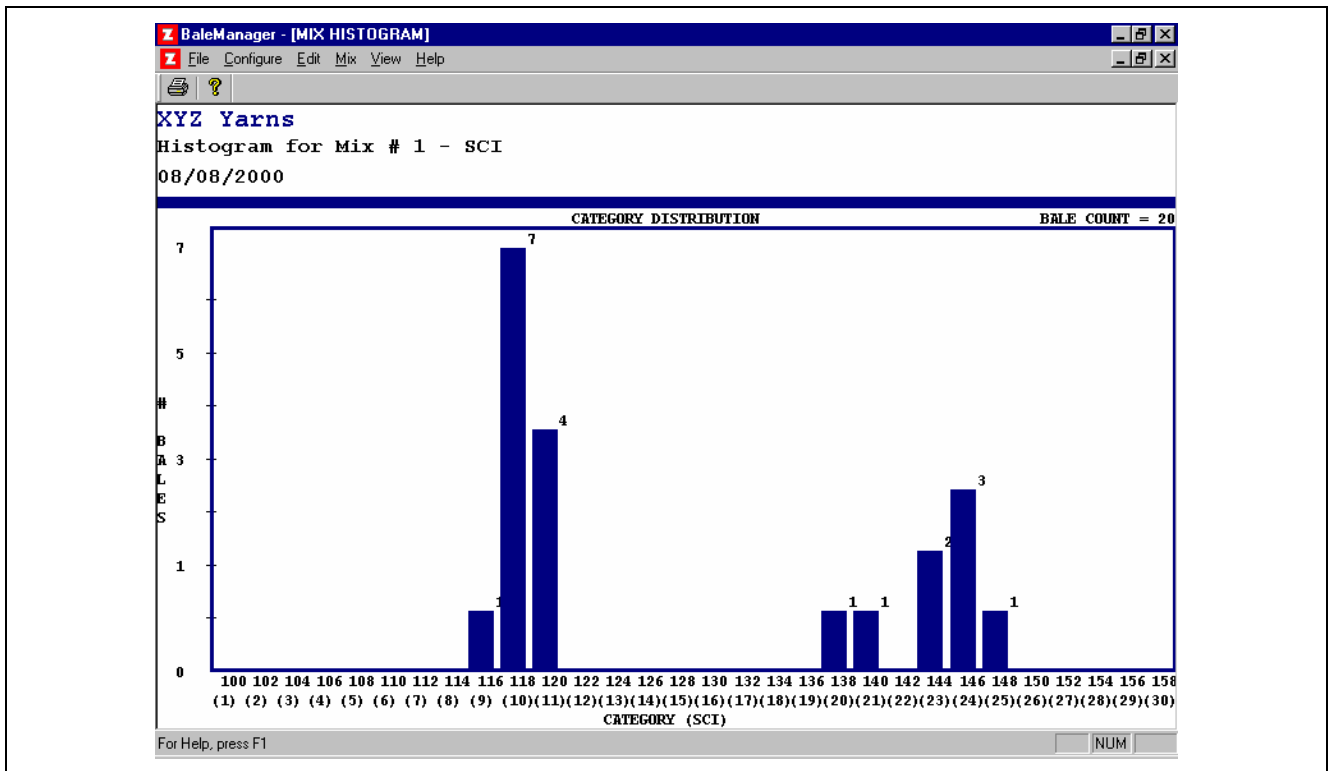

Fig. 6-94 Mix Histogram, Mix no. 1 - SCI
27.9 The 20 Bale ID SCI for Mix 1 will appear (Fig. 6-94)